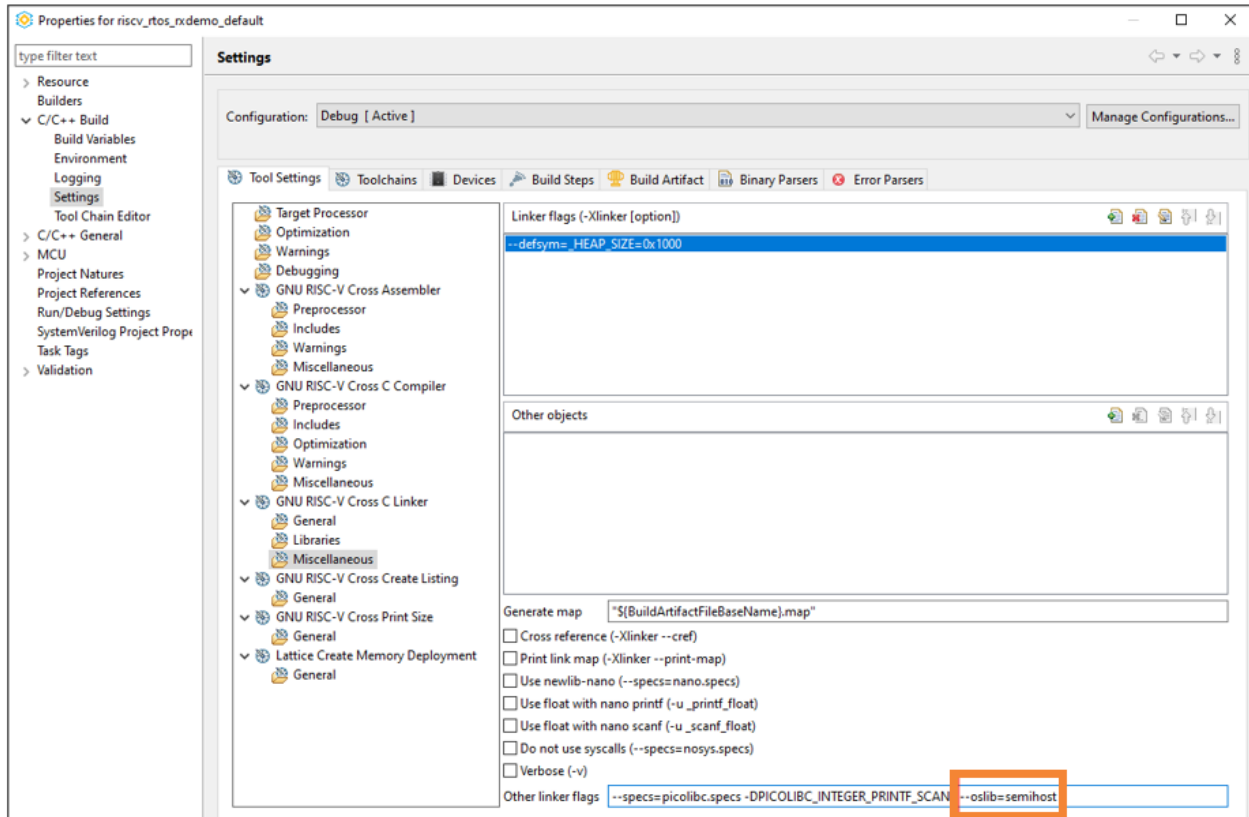

Figure 5.29. --oslib=semihost Linker Flag 1
7. Select **GNU RISC-V Cross C Linker > Miscellaneous**. Check link flags under the label, Other linker flags. Make sure the linker flag, `--oslib=semihost`, is supported (Figure 5.29).